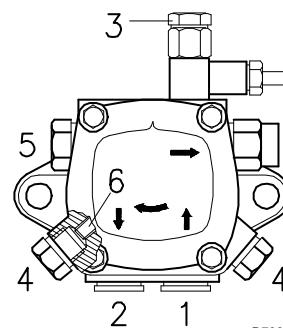

Fig. 21
6.3 Pump (Fig. 21)
- In order for self-priming to take place, one of the screws 3)(Fig. 21) of the pump must be loosened in order to bleed off the air contained in the suction line.
In order to adjust pump pressure, use the relevant screw 5) (Fig. 21 pag. 18)